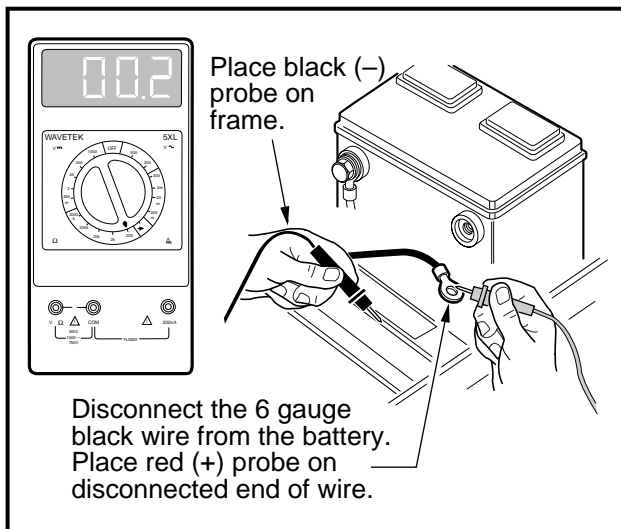

Figure 11-26 Battery Ground Cable Test
5.2. Set the multimeter to 200 Ω (ohms). Place the red (+) probe on the unconnected end of the 6 gauge black wire, and place the black (-) probe on the vehicle frame (**Figure 11-26, Page 11-25**). The reading should be continuity. If the reading is incorrect, check that terminal connections are clean and tight. If the connections are good and the reading is incorrect, repair or replace the wire.